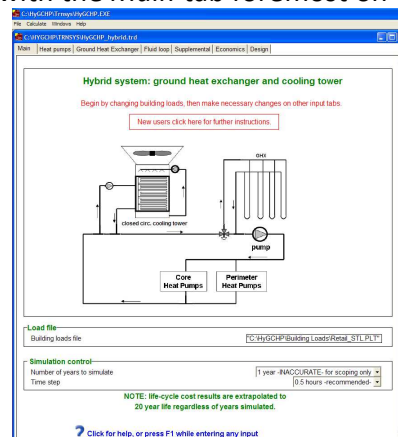

Figure 10. Main Tab for the Hybrid Configuration
- 4.) The model should launch with the *Main* tab foremost on your screen (Figure 10).